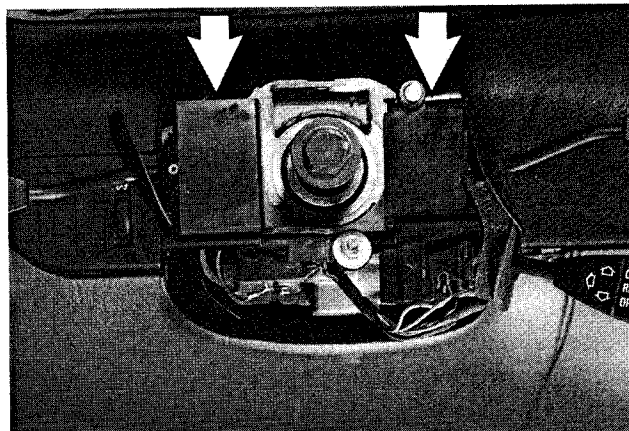

Fig. 3. Depress retaining tabs (arrows) and push holder downwards.
7. Depress retaining tabs to release stalk switch holder. Push stalk switch holder downwards and off steering column. See Fig. 3.